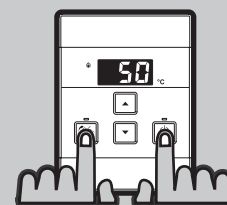

Fig. 3
**STEP 1:** For the water controller in the kitchen only, press and hold the 'Priority transfer' and 'On/Off' buttons simultaneously (Fig. 3) until a 'beep' is heard (approximately 5 seconds).